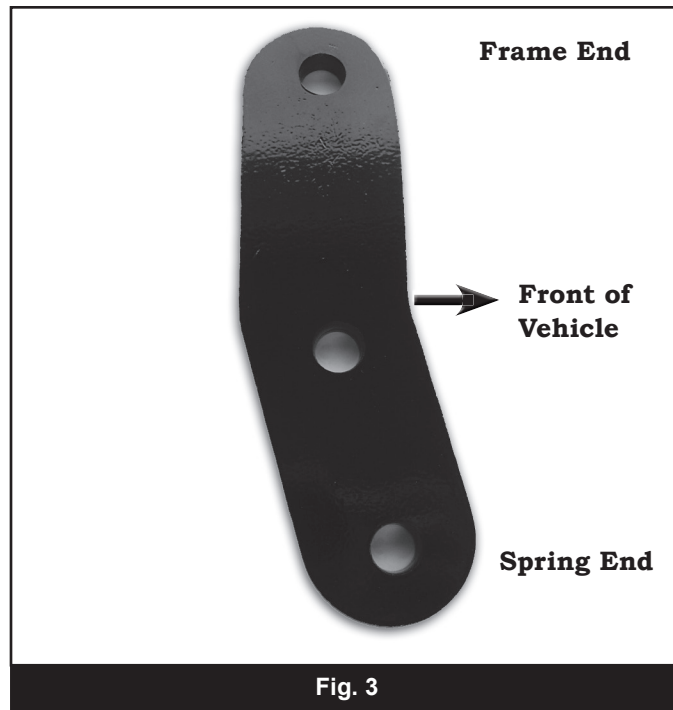

Fig. 3
21. Apply grease to the new spring bushings (3624RB) and install in the new front springs (004351). Grease one (37) sleeve (1/2" ID) and one (15) sleeve (9/16" ID) and insert in opposite spring eyes. The small (37) sleeve will mount to the shackles.
22. Apply grease to the new frame shackle bushings (3625RB) and install in the frame. Grease and install a (37) sleeve in the bushings.
23. Loosely install two new front shackle plates (curved) to the frame with a 1/2" x 4-1/2" bolt, nut and 1/2" SAE washers from bolt pack #910. The two closest holes in the plate will go toward the spring. The bend in the shackle will go down and toward the front of the vehicle. (Fig. 3) Loosely install the shackle spacer in the middle holes on the shackle plate and retain with 1/2" hardware from bolt pack #910.